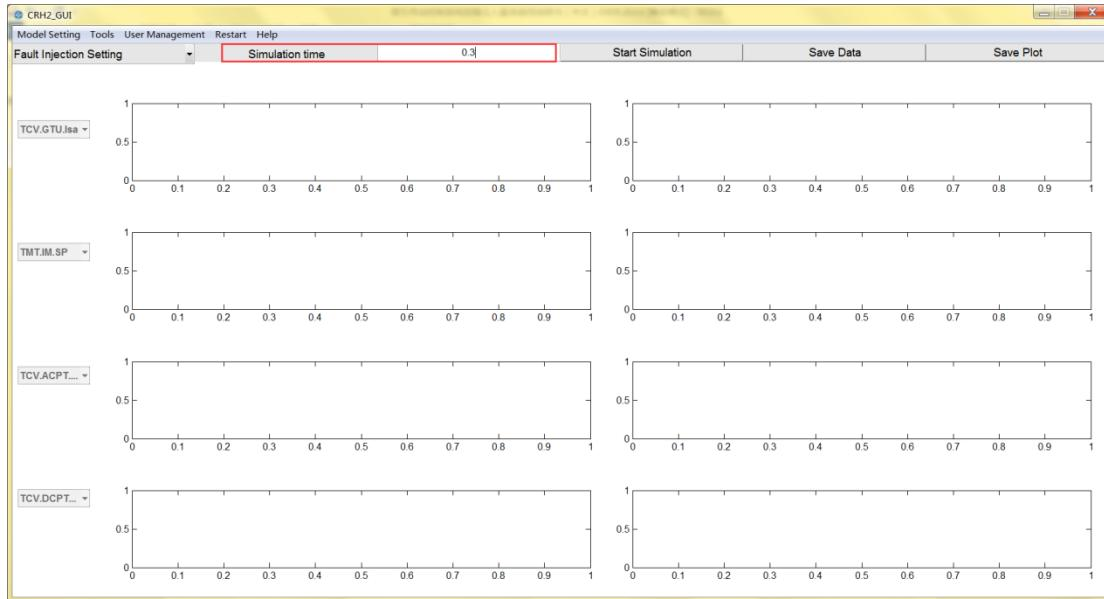

Fig. 45 Set simulation time
② Set the simulation time, the simulation duration to be 0.3s, as shown in Fig. 45.